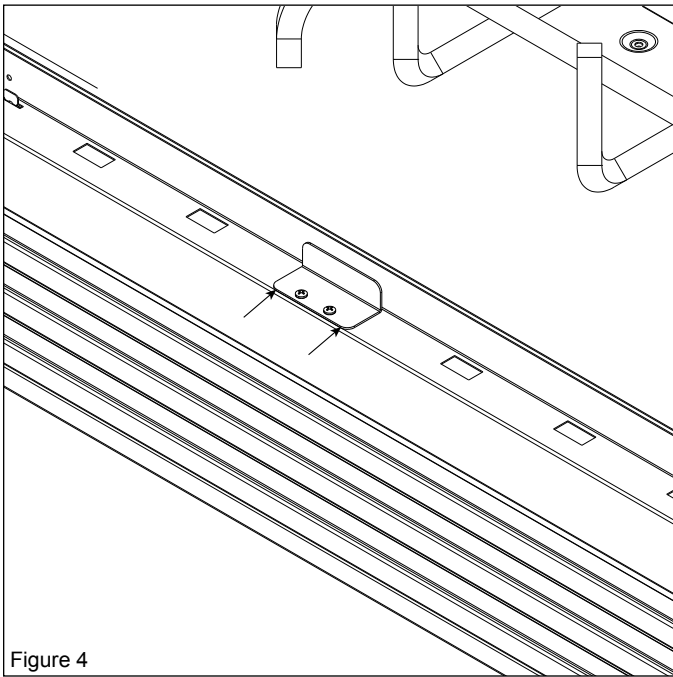

Figure 4
11. Install the door latch assembly as shown in Figure 4